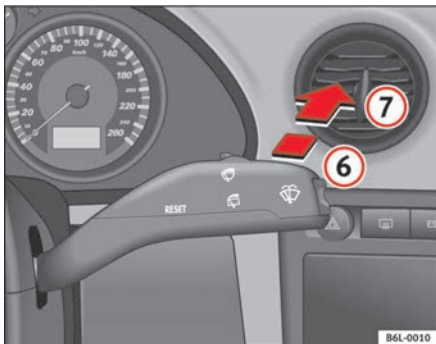

Fig. 68 Windscreen wiper and windscreen wash lever: rear window wiper
- Press the lever forwards to position **6** ⇒ fig. 68. The wiper will wipe the window approximately every 6 seconds.
- Press the lever fully forwards to position **7** ⇒ fig. 68. The rear wiper and washer operate at the same time. The windscreen wash system will function as long as you hold the lever in this position.